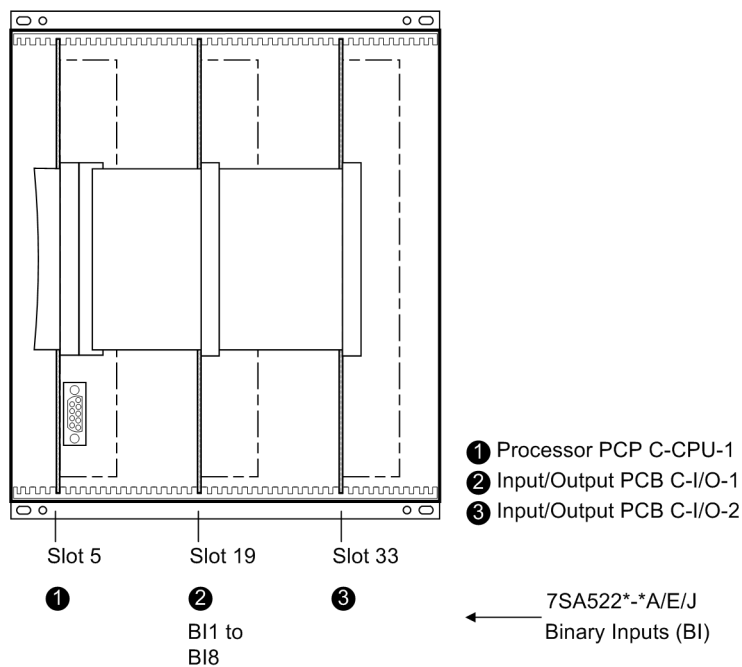
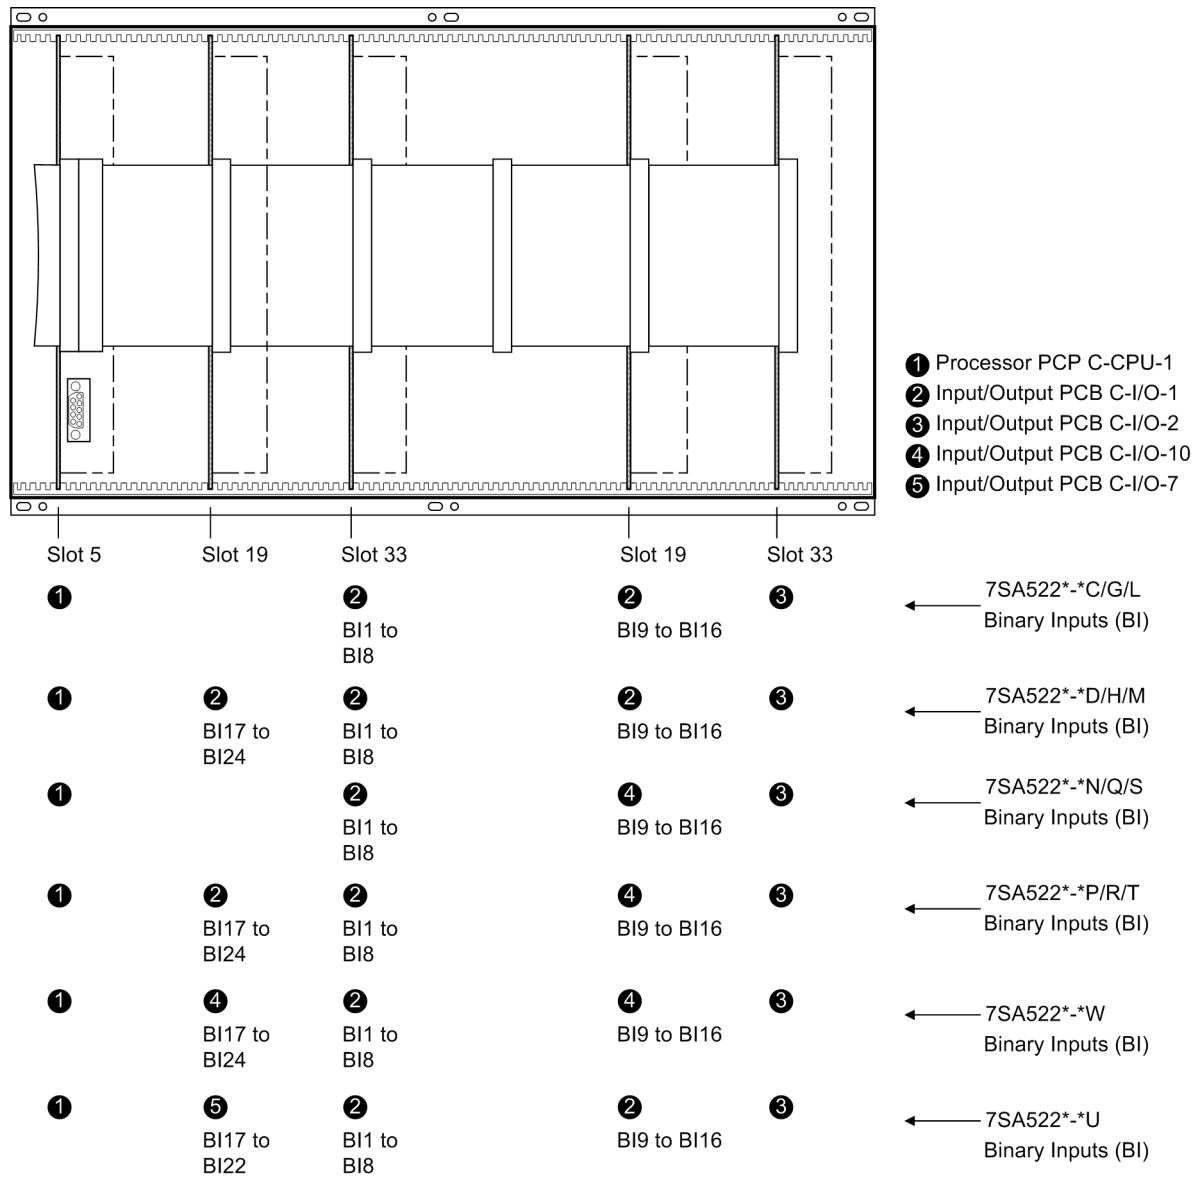

Figure 3-3 Front view with housing size $\frac{1}{2}$ after removal of the front cover (simplified and scaled down)
Figure 3-4 Front view with housing size $1/1$ after removal of the front cover (simplified and scaled down)
The order of the boards for housing size $\frac{1}{2}$ is shown in Figure 3-3 and that of housing size $\frac{1}{4}$ is shown in Figure 3-4 hervor.
- Disconnect the plug connector of the ribbon cable between the front cover and the processor board C-CPU-1 (No. 1 in Figure 3-3) at the front cover side. Press the top latch of the plug connector up and the bottom latch down so that the plug connector of the ribbon cable is pressed out.
- Disconnect the ribbon cables between the processor board C-CPU-1 (No. 1 in Figure 3-4) and the input/output board I/O (according to order variant No. 2 to No. 5 in Figure 3-4).
- On the input/output board C-I/O-1 (No. 2 in Figure 3-3, slot 19) for housing size $1\frac{1}{2}$,
- On the input/output board C-I/O-1 (No. 2 in Figure 3-4, slot 33 left) for housing size $1\frac{1}{1}$,
- In versions 7SA522*-***D/H/M** (housing size $1\frac{1}{1}$ with 32 binary outputs) this is valid for the binary outputs BO16 and BO24 (Figure 3-4, slot 19 left and right);
- In versions 7SA522*-***C/G/L** (housing size $1\frac{1}{1}$ with 24 binary outputs) this is valid for the binary output BO16 (Figure 3-4, slot 19 right);
- In versions 7SA522*-***P/R/T** (housing size $1\frac{1}{1}$ with 32 binary outputs and command acceleration) this is valid for the binary output BO24 (Figure 3-4, slot 19 left);
- In version 7SA522*-***U** (housing size $1\frac{1}{1}$ with 44 binary outputs and command acceleration) this is valid for the binary output BO16 (Figure 3-4, slot 19 right);